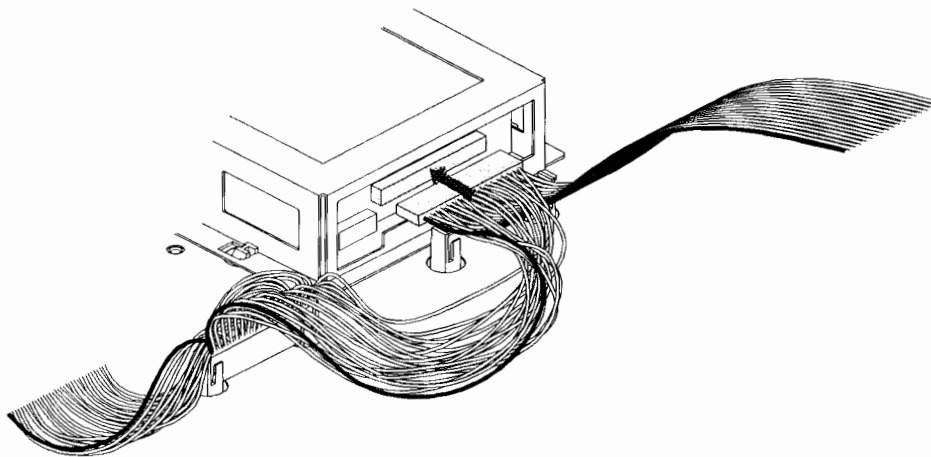

Figure B-30. Connecting the SCSI Ribbon Cable
10. Find the SCSI cable connector that is closest to the DDS-format tape drive and remove it from its keeper. (See Figure B-30.)
11. Plug the SCSI cable connector into the SCSI connector on the tape drive as shown in Figure B-30.